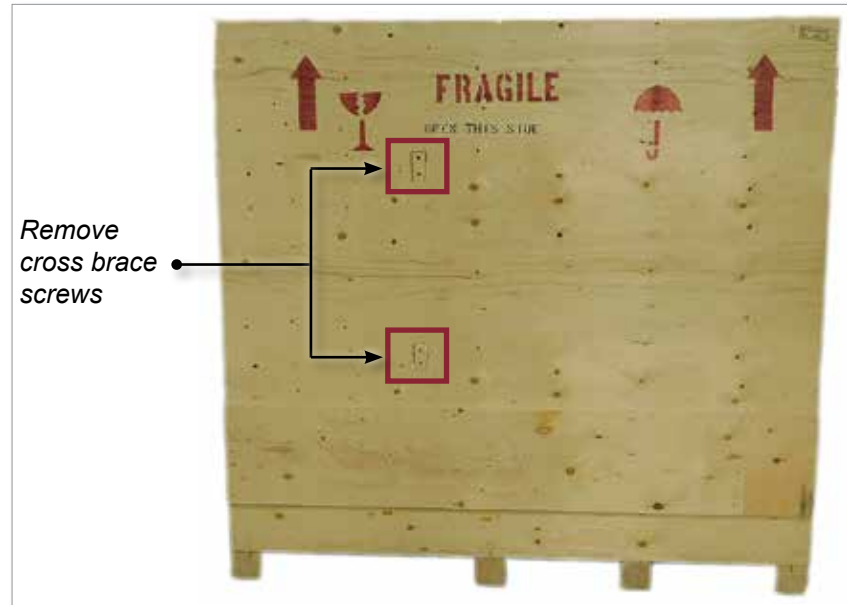

Figure 3-7 Remove cross brace screws
4. From the side of the crate marked with “FRAGILE OPEN THIS SIDE”, remove the cross brace screws. See Figure 3-7.